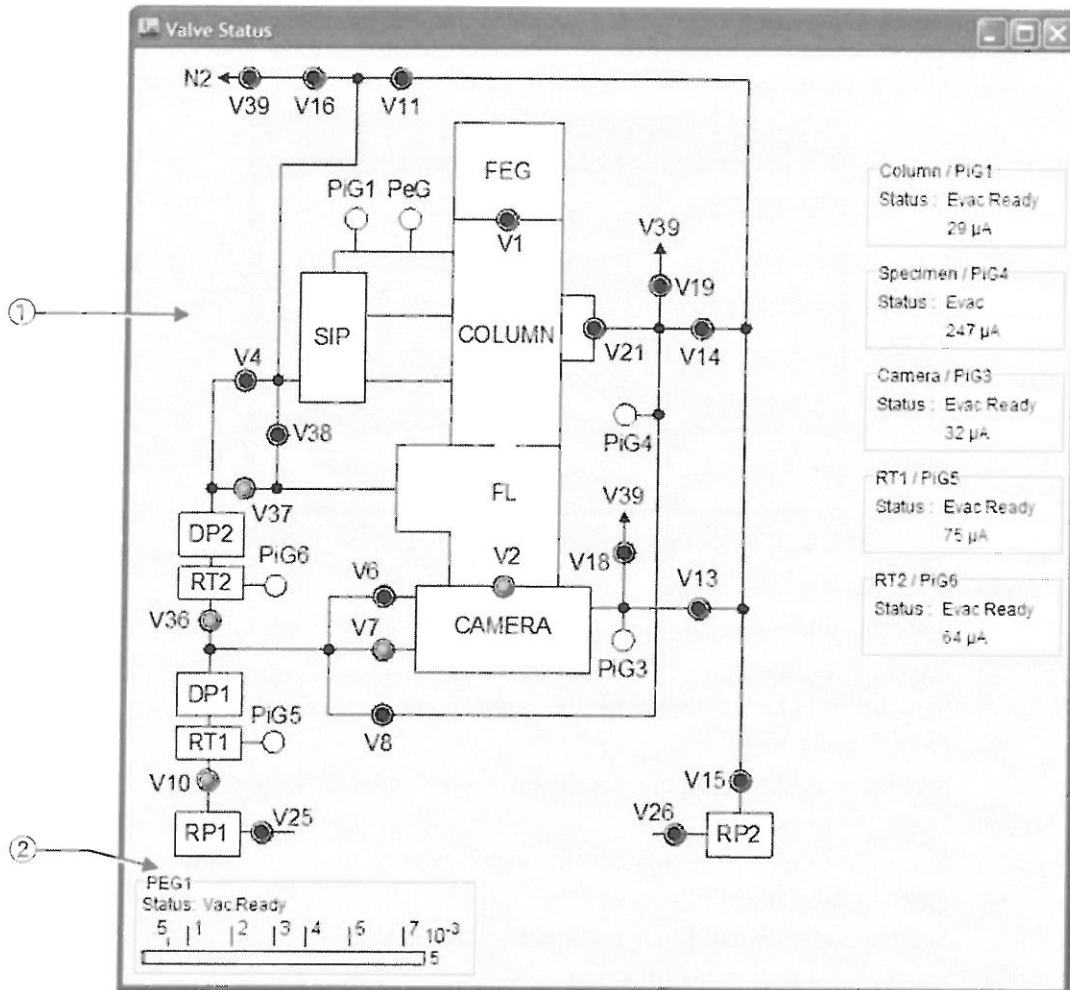

Fig. 4.55 Valve Status window
It is displayed when Monitor in the TEM Controller menu bar (Fig. 4.20-①) is selected. (Fig. 4.55) The vacuum system diagram in the display might differ from that shown below, depending on the system configuration.